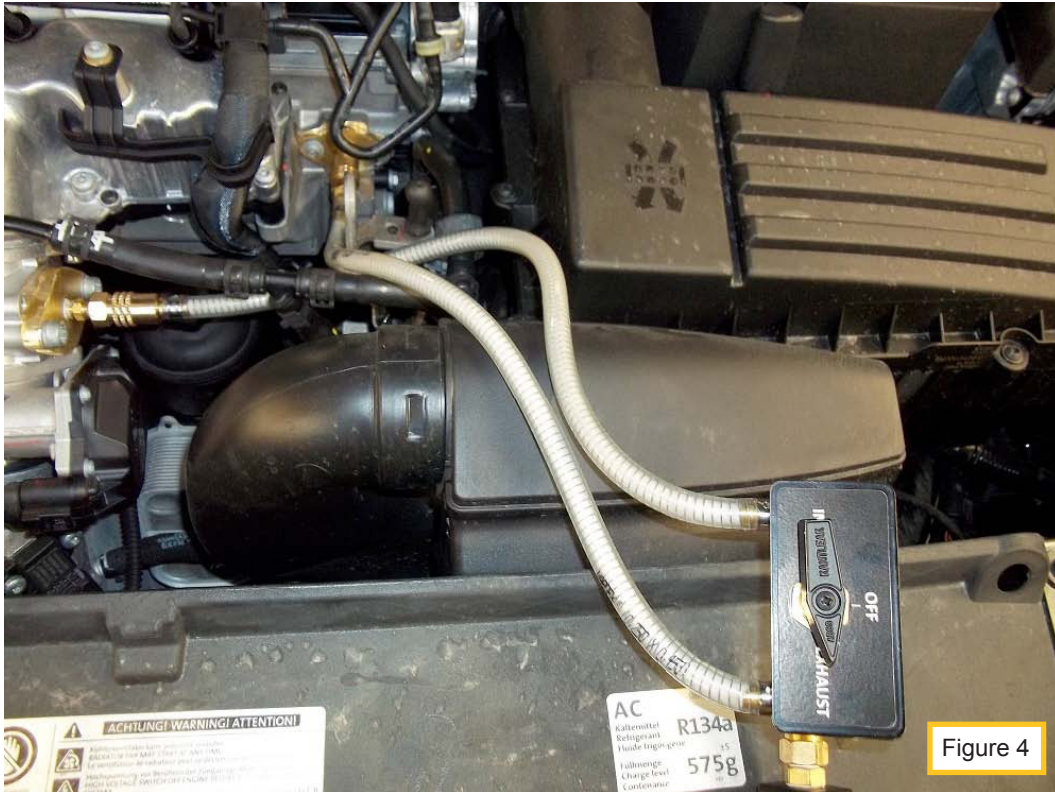

Figure 4
9. Start vehicle engine. Set EGR manifold to exhaust (see figure 4).
13. Close the fluid valve and turn manifold valve to exhaust (see figure 4) and let the air flow for an additional 2 minutes to cool off the exhaust stream.